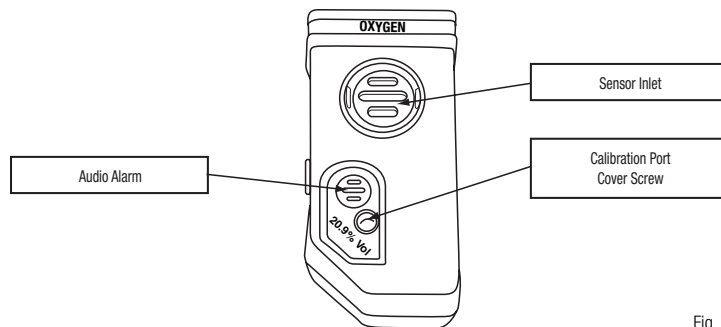

Fig. 3
1. Unscrew and remove the calibration port cover screw (Fig. 3).